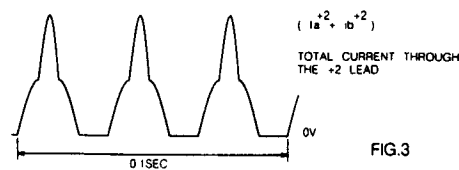

FIG.3
6. With a disc on the turntable, put the set in service-loop 0. Switch S on and adjust the trimming potentiometer back in such a way that 3 complete pulses are visible during 0.1 sec.(fig.3). The polarity of the oscilloscope must be chosen so that the tops of the pulses are in upward position.